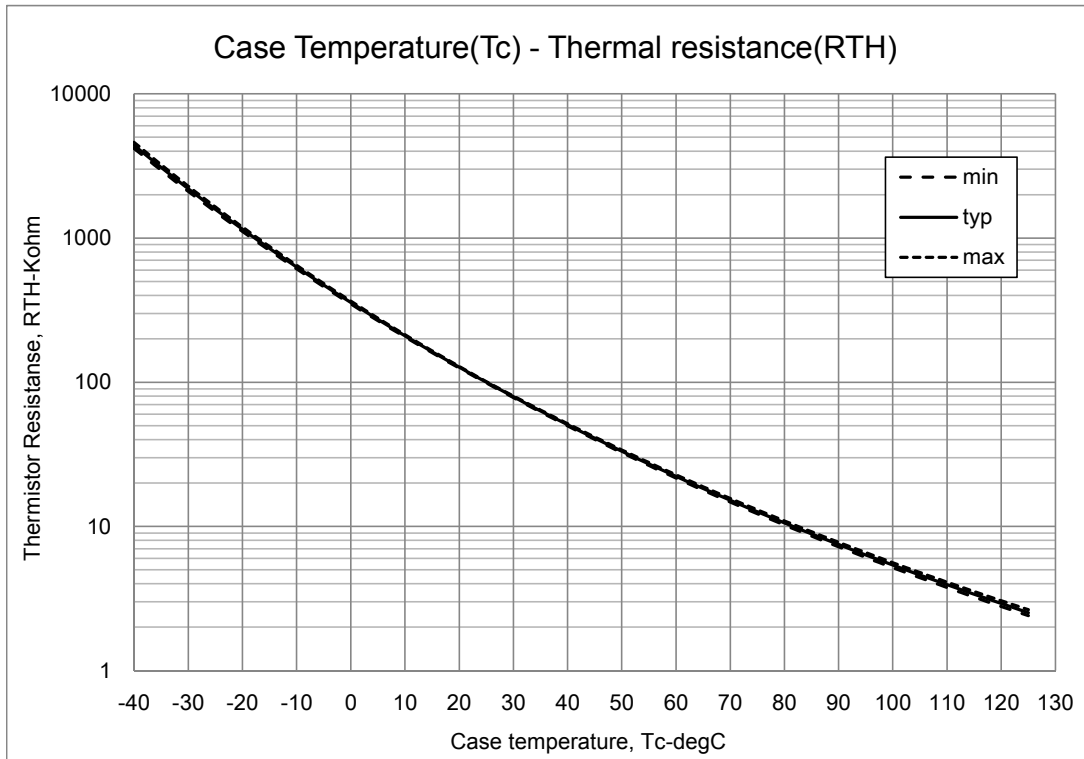
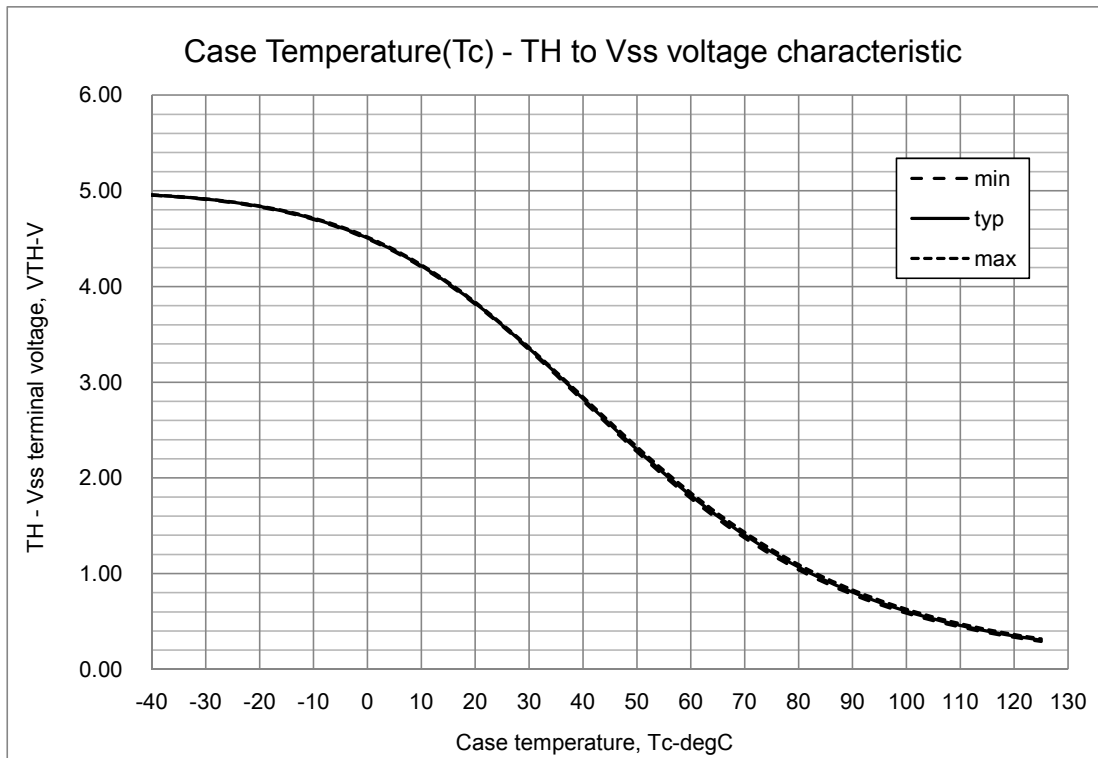

Fig.10 Variation of thermistor resistance with temperature
Fig.11 Variation of thermistor terminal voltage with temperature
5. Inside the IPM, a thermistor used as the temperature monitor for internal substrate is connected between VSS terminal and TH terminal therefore, an external pull up resistor connected between the TH terminal and an external power supply should be used. The temperature monitor example application is as follows, please refer the Fig.10, and Fig.11 below.